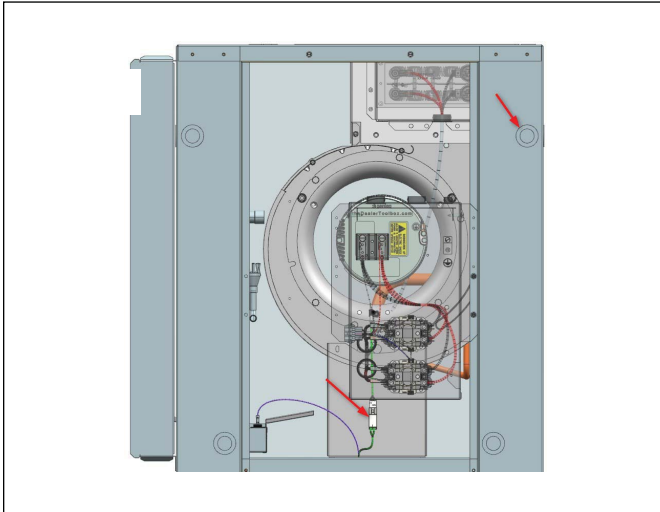

Figure 41
1. Locate the closest available electrical knockout of the unit and the Discharge Air Interconnect in the Air Handler section as shown in Figure 41.